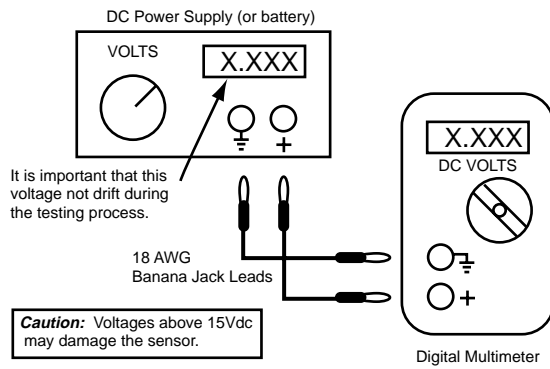

Figure 1-1
4. Two short jumper cables with banana jack terminations. (see Figure 1-1)
- b) Connect the equipment as shown in Figure 1-1, below.